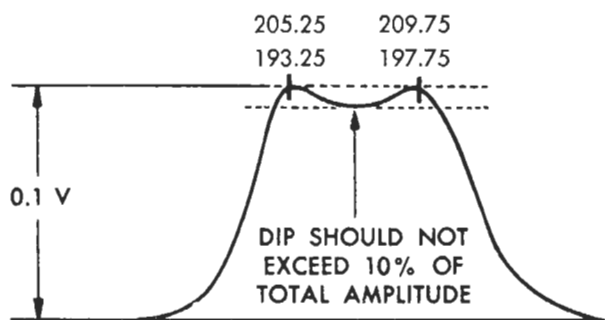

Figure 4 - Channel 10 or 12 RF Response Curve
2. Adjust RF plate and converter grid trimmers for pattern similar to Figure 4. Spread or squeeze antenna coil on channel strip for maximum amplitude of response curve. Check marker locations.
4. Reset bias voltage to - 2.0 volts. Reconnect Oscilloscope to test point B. Retune receiver and Sweep Generator for channel 2. Spread or squeeze antenna coil for maximum gain in keeping with the shape of the response curve of Figure 4.
1. Turn the channel selector to channel 13 and adjust the sweep generator to obtain a response curve similar to Fig. 4. Spread or squeeze the channel 13 RF plate inductance (wafer next to metal center shield) and channel 13 mixer grid coil (wafer next to oscillator screws) until response similar to Fig. 4 is obtained.